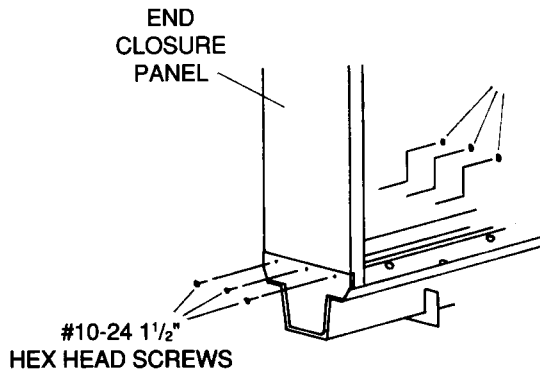

Figure 11
1. Locate the two end closure panels. Select the panel that will have the channel legs toward the pads on the drain end. Set the bottom of the end closure panel inside the gutter (see figure 11) and attach with #10 - 24 hex head screws and whiz lock nuts. Locate the proper top cover end cap and slip it over the pipe. Attach it to the top stringer with two 1/4" x 1 1/4" screws.